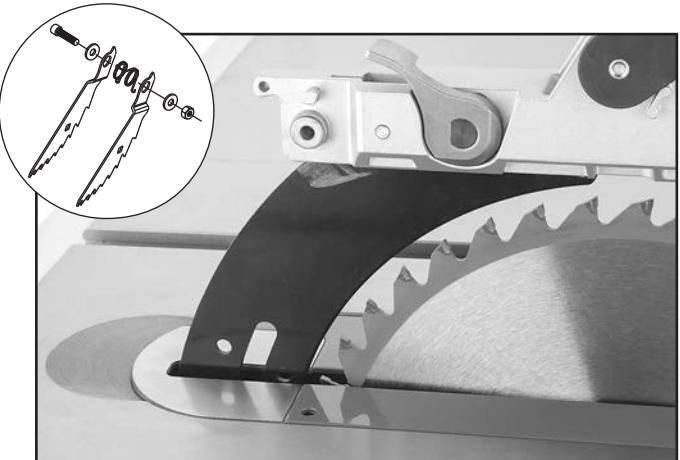

Figure 54. Example of pawls removed.
2. Remove cap screw, locking hex nut, washers, pawls, and retaining spring from blade guard assembly (see **Figure 54**).